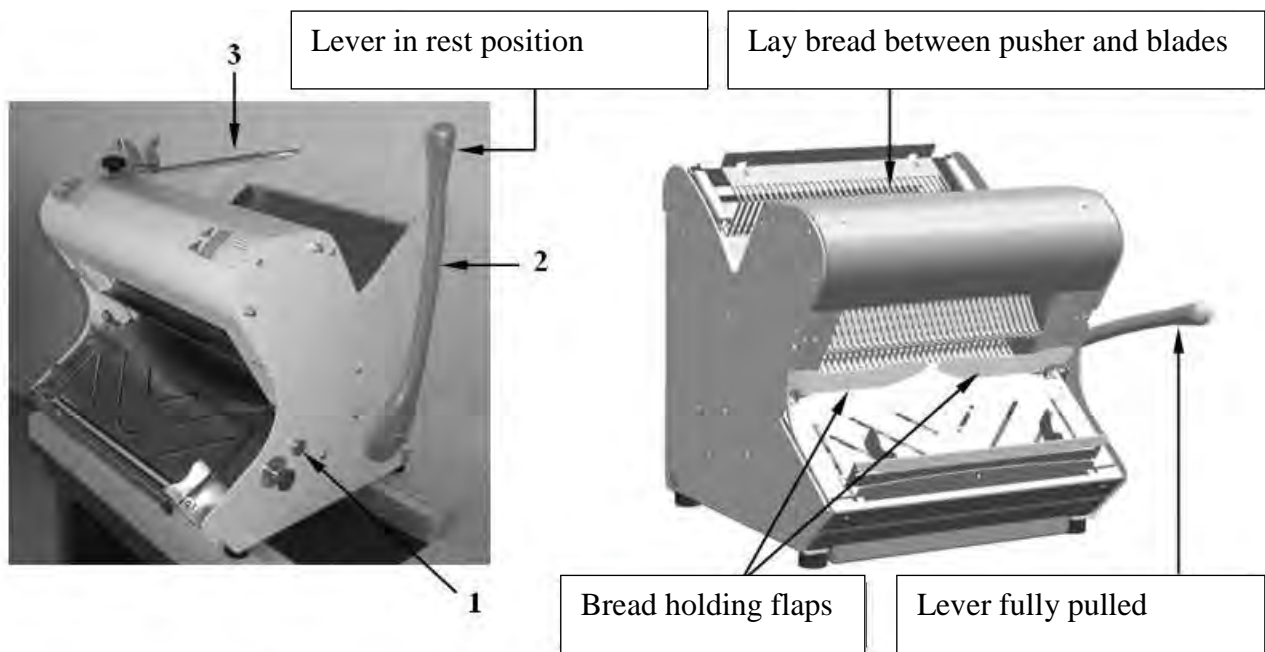

Figure 11
To switch on the machine, connect the plug to the power socket; the light in the button ref. 1 Figure 11 will come on, indicating that the machine is live.
With reference to Figure 11:
- pull the lever ref. 2 Figure 11 so as to make the bread pusher move completely back